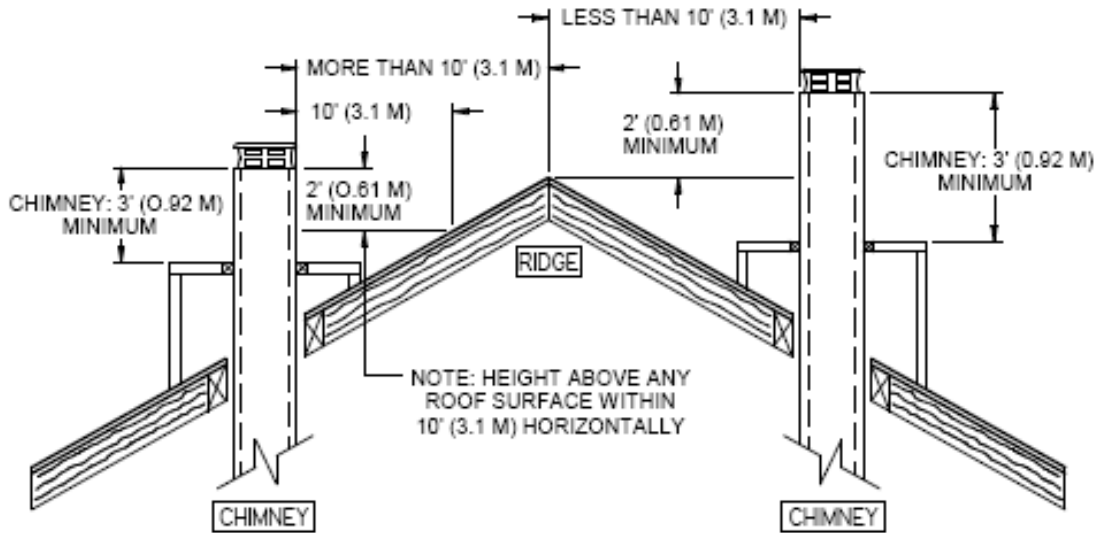

Figure 7c
12. When you build a chase enclosure for chimney sections above the roof, the chimney must extend at least 3 ft. (92 cm) above the chase enclosure and at least 2 ft. (61 cm) higher than any wall, roof or building within 10 ft. (3.1 m) of it. See Figure 7c and 7d to determine the configuration that applies to your roof (flat or sloped roof and the distance between the chimney and the highest point of the roof and/or the nearest chimney).